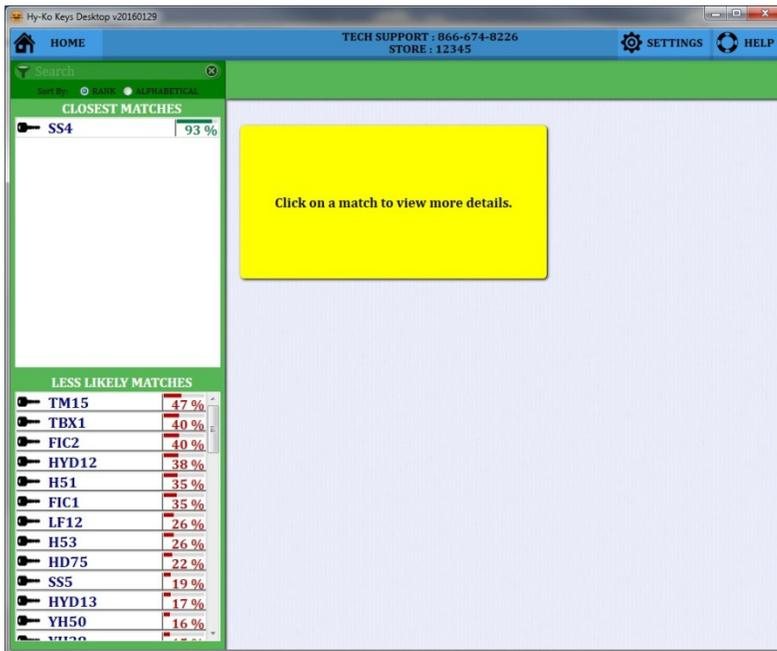

fig. 49
- By skipping the I-Tool check, you will be taken to the Results Screen (see fig. 49).